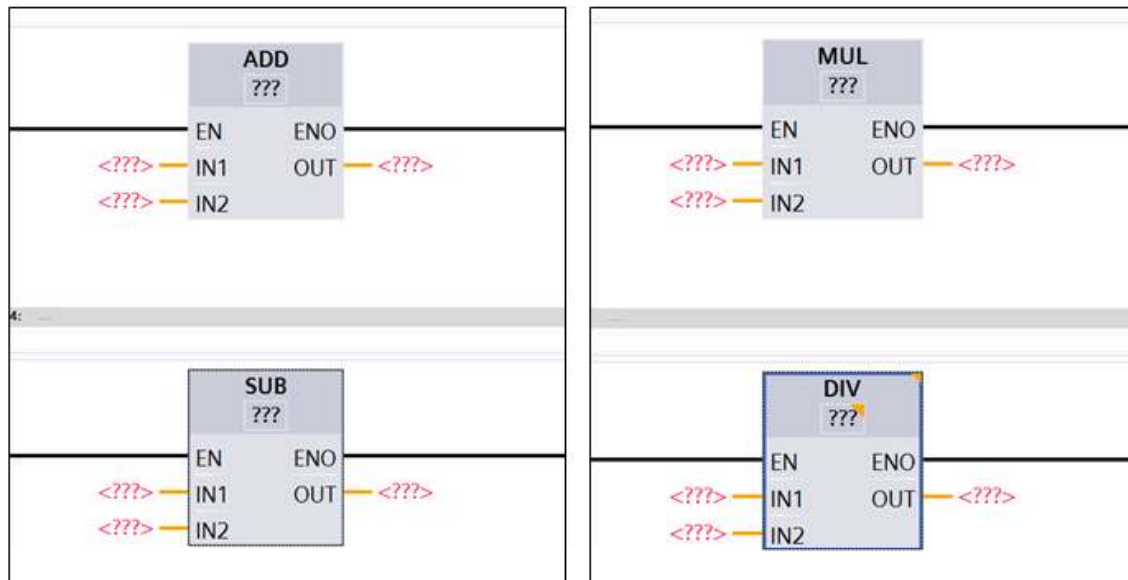

Fig 8.22 RLL for simple math functions
- The RLL function for simple math mainly addition, subtraction, multiplication and division is shown in Fig 8.22. For example, in case of add function; it is possible to add the value at input IN1 and the value at input IN2 and query the sum at output OUT ($\text{OUT} := \text{IN1} + \text{IN2}$). A maximum of 2 inputs can be specified.